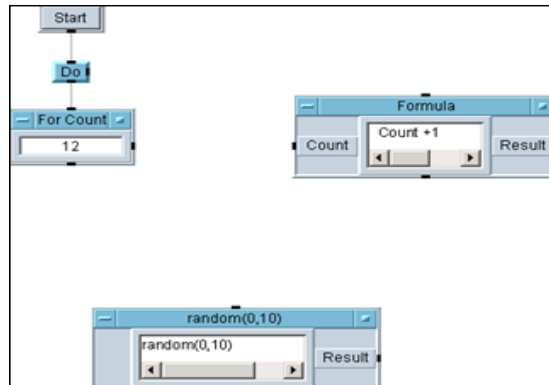

Figure 1-22 Partial layout of Exercise 1.4
- 7 Click on Create Formula; place the object to the right of For Count. See Figure 1-22.